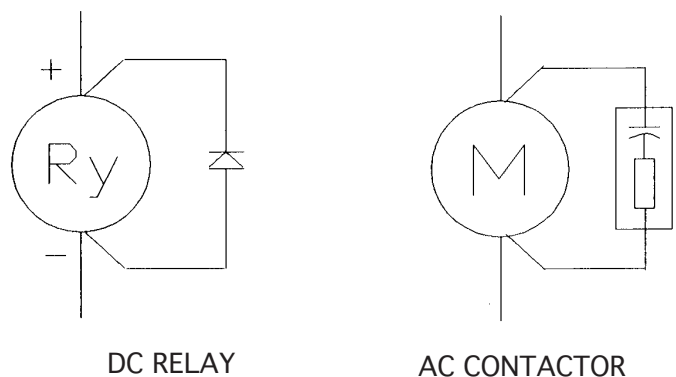

Figure 4-2.
3. See Figure 4-2 for the location of the Main Circuit Terminal Block and the Control Circuit Terminal Block.